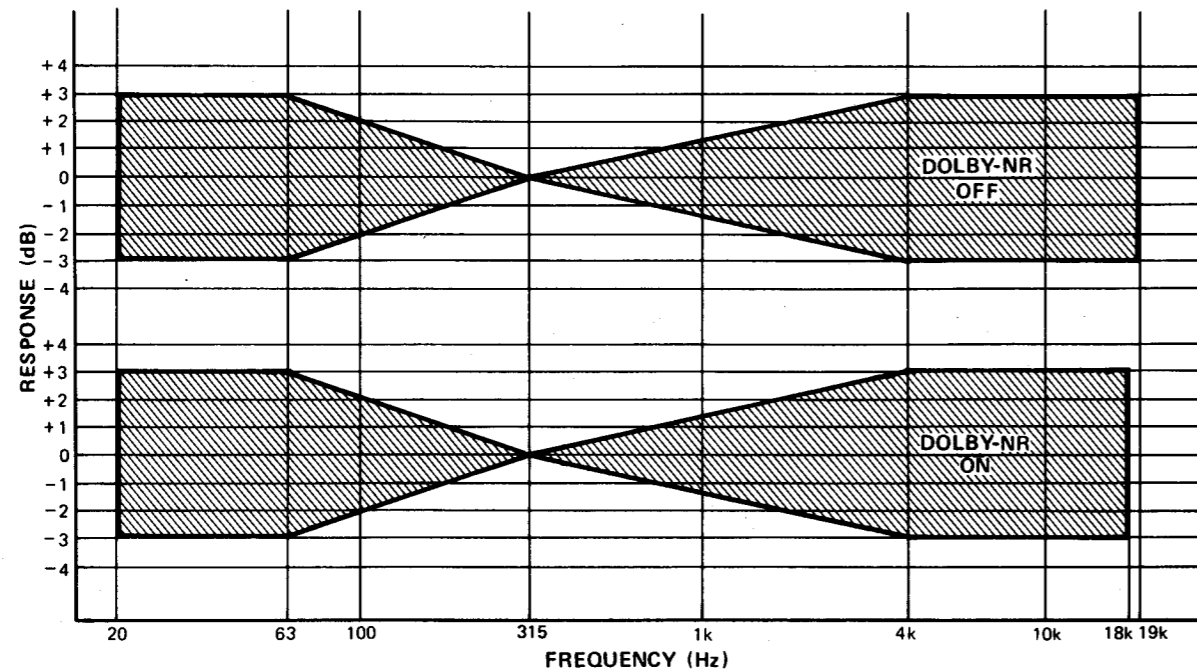

Fig. 5 - FeCr & CrO₂
17. If the above frequency response is not within the shaded DOLBY-NR OFF area of Fig. 5, adjust VR311 (left) and VR312 (right) slightly. Repeat steps 15 and 16 until playback frequency response on the V.T.V.M. 2 is adjusted within the DOLBY-NR OFF range as shown in Fig. 5.
18. Set Dolby NR switch to ON position and check if frequency response is within range of DOLBY-NR ON section of Fig. 5, if not repeat DOLBY-NR OFF procedures.
22. If the above frequency response is not within the shaded DOLBY-NR OFF area of Fig. 5, adjust VR313 (left) and VR314 (right) slightly. Repeat steps 20 and 21 until playback frequency response on the V.T.V.M. 2 is adjusted within the DOLBY-NR OFF range as shown in Fig. 5.
23. Set Dolby NR switch to ON position and check if frequency response is within range of DOLBY-NR ON section of Fig. 5, if not repeat DOLBY-NR OFF procedures.